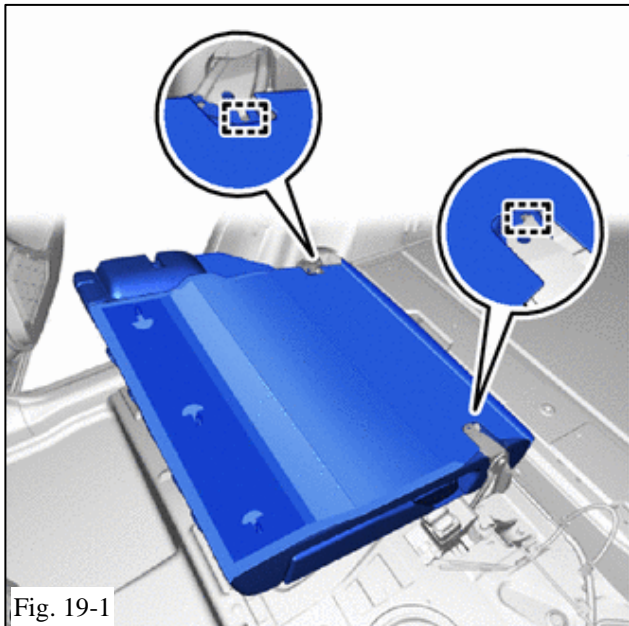

Fig. 19-1
S Torque RH Bolts (1) and (2): 36.8 N•m (27 lb•ft) (Fig. 19-1 and Fig. 19-2).